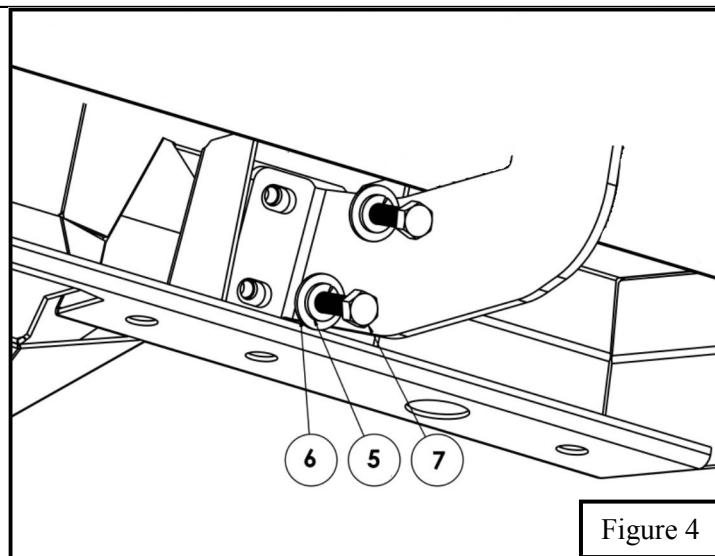

Figure 4
5. For Step Board installation to the previously installed mounting brackets use the supplied Short M8 bolts and M8 hardware. Slide bolt plate into the board rail located underneath the step board, then loosely install with M8 hardware. **See Figure 4.**